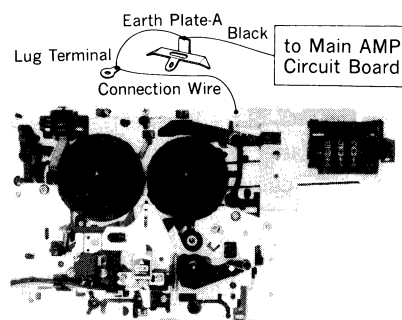

Fig. 5
2. For grounding, connect a extension cord to the mechanism's lower base plate and the lug terminal from earth plate-A (fig. 5).